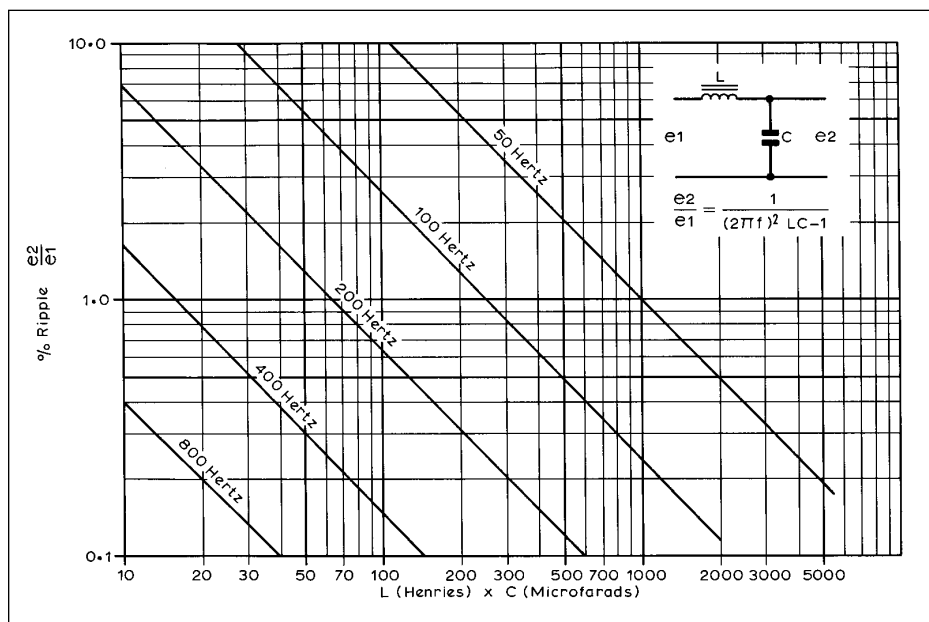

Fig 23.15: Relationship between large ripple and product of LC
than this (see Figs 23.15 and 23.16). Note that the choke should be designed so that it does not become magnetically saturated at full DC output. An air gap in the core will help in this respect. The 'swinging choke' is so designed that it does approach saturation at full output and has a higher inductance at low currents where it is needed to satisfy equation (3).